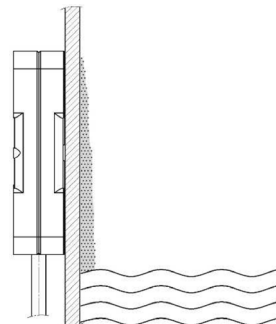

Fig. 5-2: Empty calibration with build-up
1. Medium/fill level is *not* within the detection range (see Fig. 5-2).